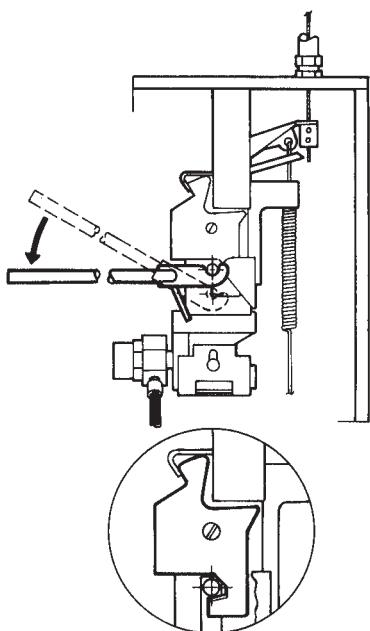

FIGURE 15
- 22. Cock the regulated release mechanism using cocking lever (Part No. 14995 or 435603). See Figure 15.